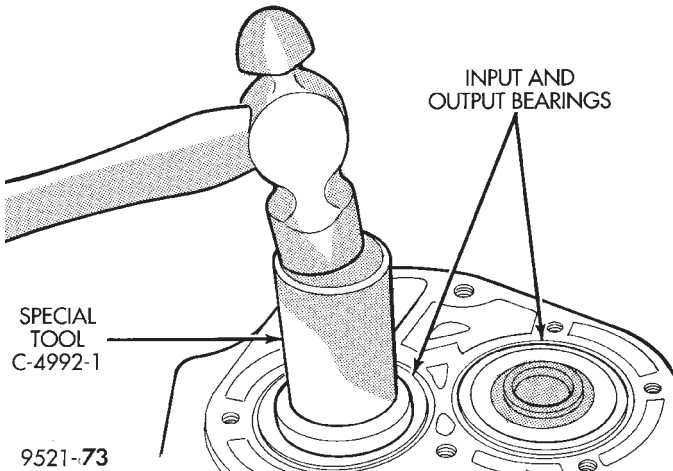

Fig. 76 Installing Input and Output Bearings
(11) Position input and output bearings on the shafts. Using Miller tool C-4992-1, press on input and output shaft bearings until they bottom into the case and against the shafts (Fig. 76).